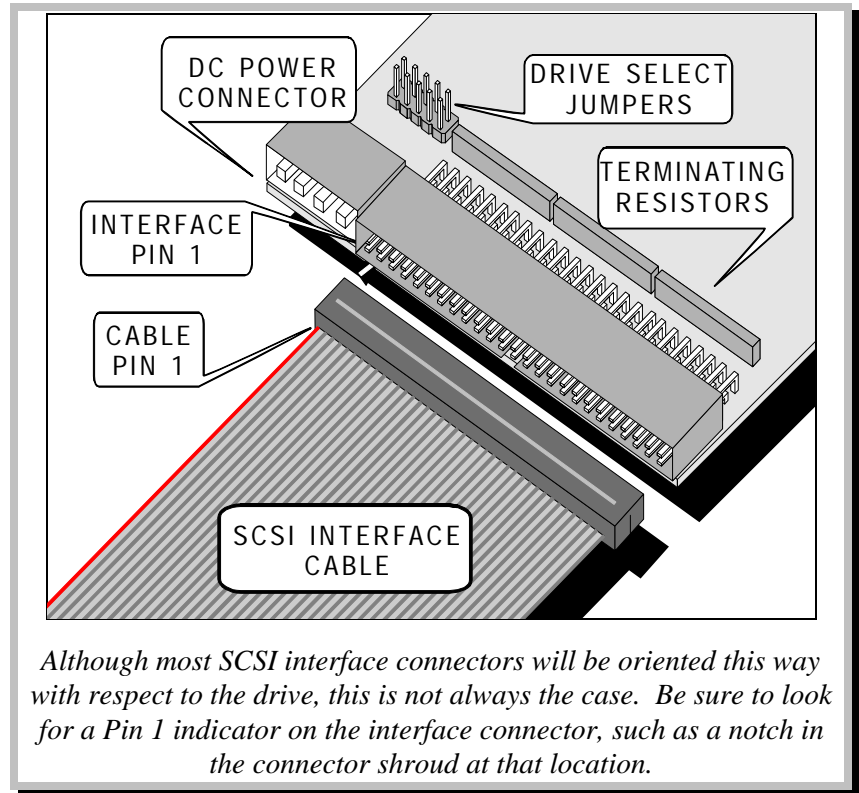

Figure 8-9: SCSI Connection Diagram
- 8) Locate pin 1 on the SCSI cable. It can be located by one of three possible markings: a triangle stamped on the connector close to pin 1, a colored stripe on wire #1 (usually red or blue), or a keying tab inside of the connector that will not allow the cable to be inserted incorrectly. Orient the cable connector so that it corresponds to pin 1 on the drive interface connector and join the two connectors. Refer to Figure 8-9 for an illustration.